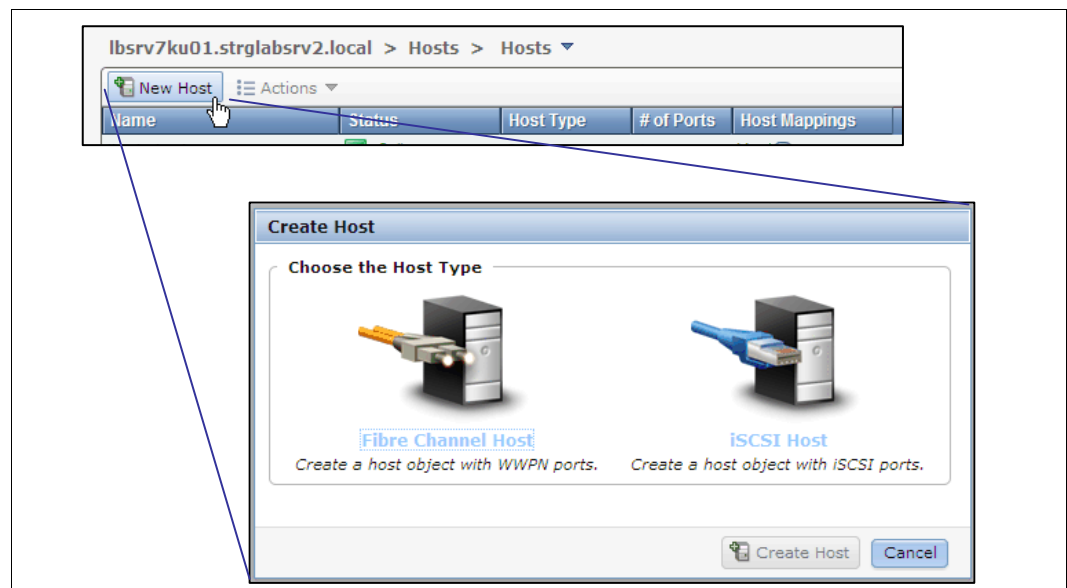

Figure 9-13 Create Host window
2. Click **Hosts** to open the Hosts window. Click **New Host** to open the Create Host window (Figure 9-13).